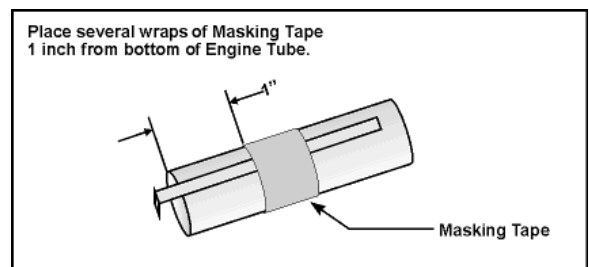

Figure 2
2. Make a mark on the Engine Tube, 1.0" from the end of the tube with the protruding Engine Hook, as shown in **Figure 2**. Place several wraps of masking tape around the Engine Tube, securing the Engine Hook in place. Run a thin film of white glue along the edges of the masking tape.